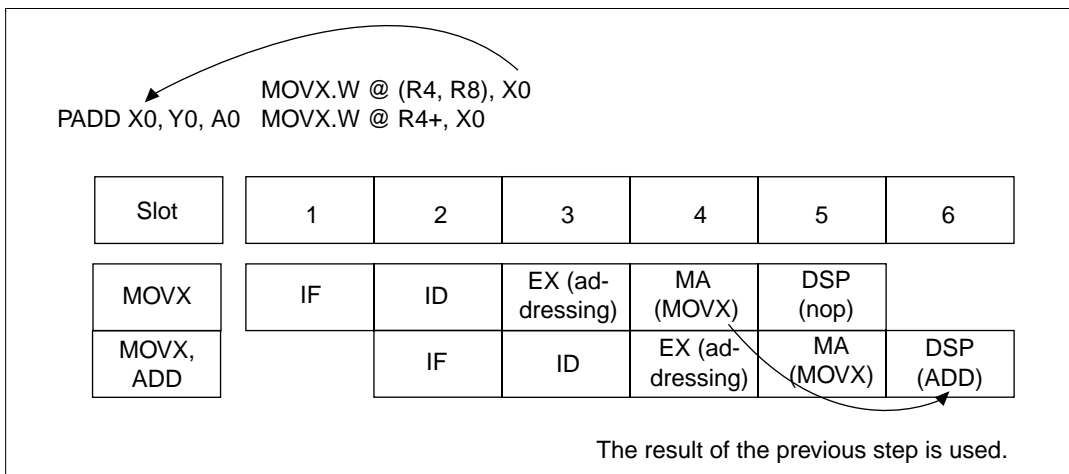

Figure 5-2 Sample Processing Flowchart
When the memory read destination operand is the same as the ALU operation source operand and the data transfer instruction program is written on the same line as the ALU operation, data loaded from memory in the memory access stage (MA) cannot be used as the source operand of the ALU operation instruction. When this occurs, the result of the instruction executed first is used as the source operand of the ALU operation and is updated as the destination operand of the data load instruction thereafter. Figure 5-2 is a flowchart of the operation.